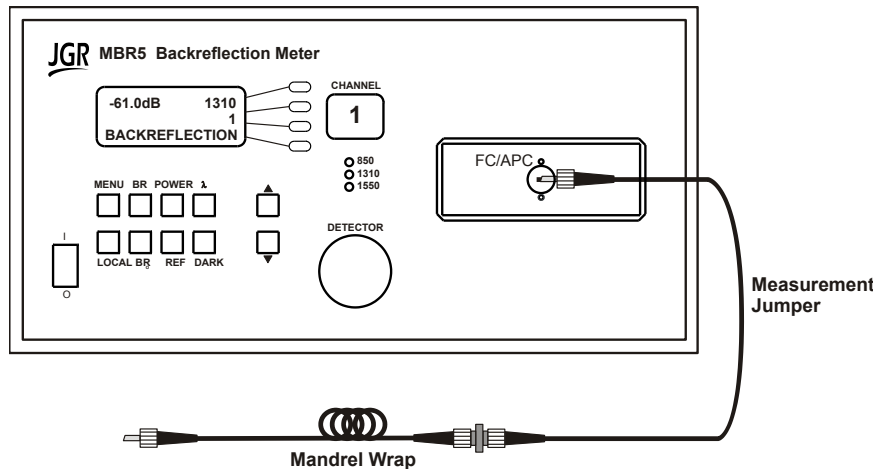
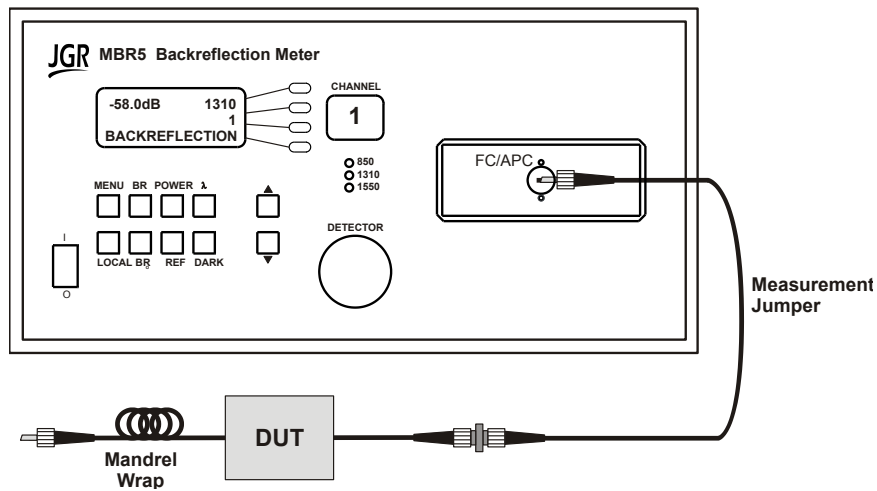

Figure 5: Measuring backreflection of a connector
Figure 6: Measuring backreflection of a connectorized DUT
3. Terminate the measurement jumper immediately after the DUT (see Figure 5 and Figure 6) and hold the termination point steady.